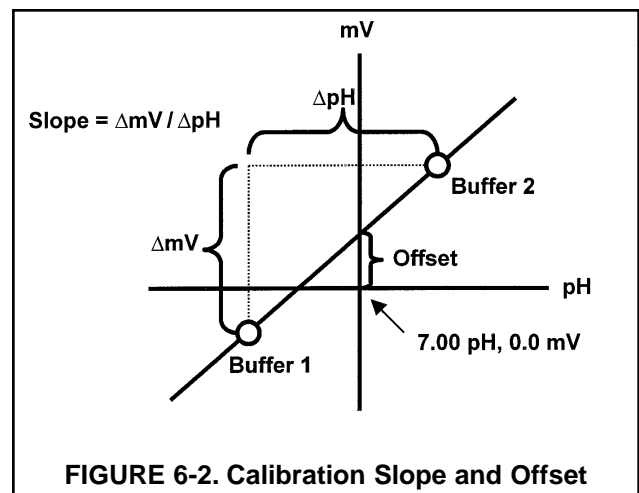

FIGURE 6-2. Calibration Slope and Offset
2. **SLOPE AND OFFSET.** Once the Model 30 successfully completes the calibration, it calculates and displays the calibration slope and offset. The slope is reported as the slope at 25°C. Figure 6-2 defines the terms.